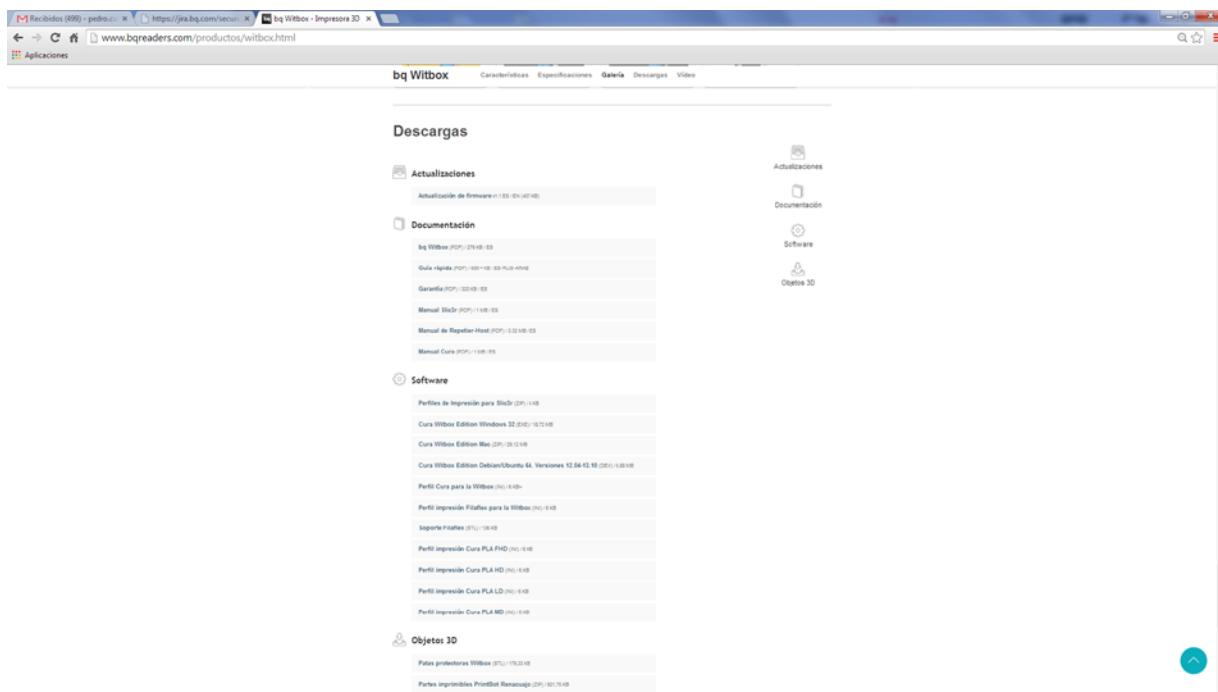

Figure 4.13 Download the firmware from bq's official website
- 1 Download the latest version of the firmware from bq's official website www.bq.com (fig. 4.13). The downloaded file will be in .hex format.